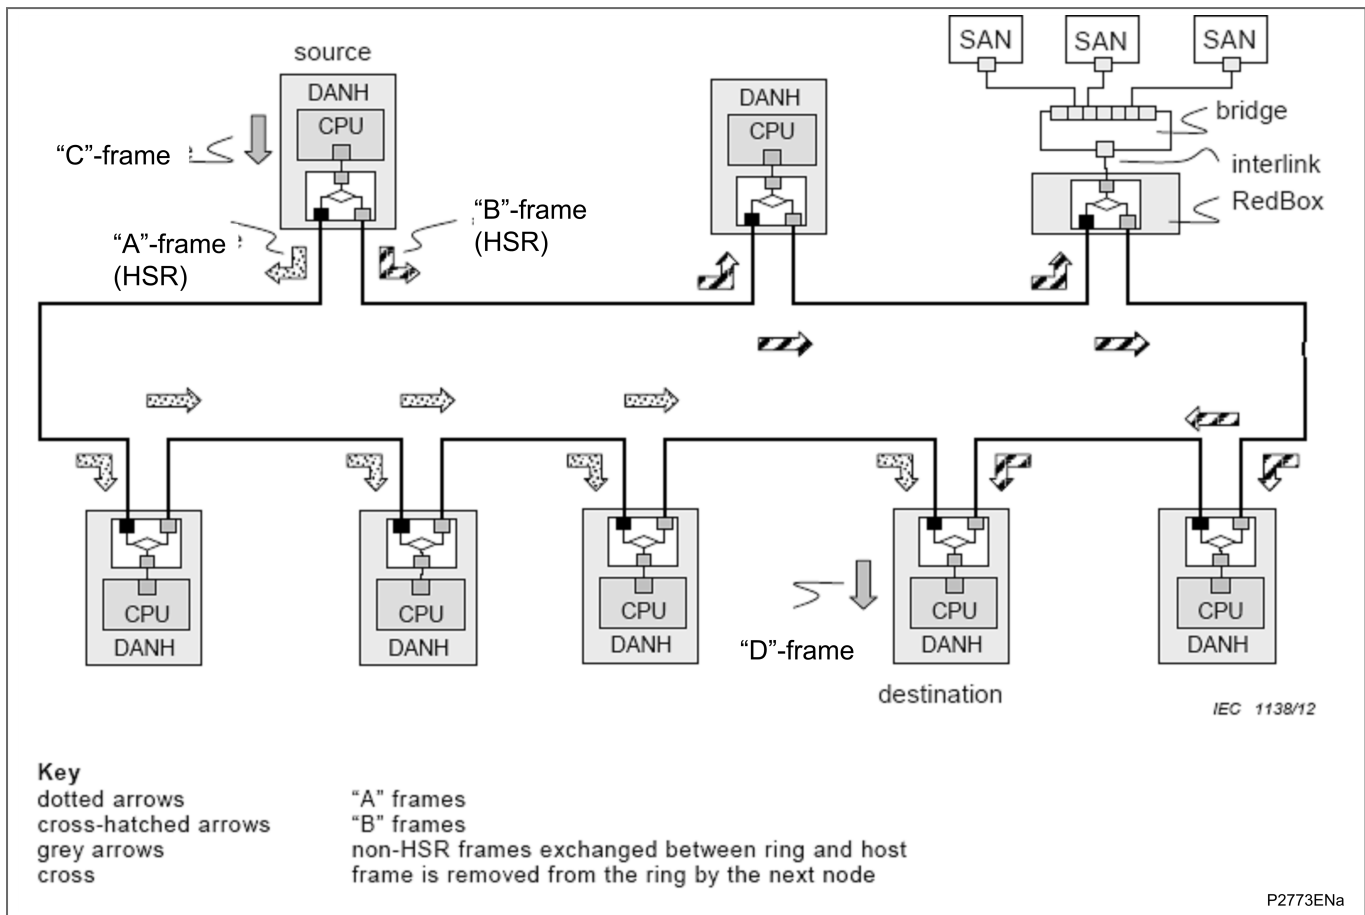

Figure 5 - HSR example of ring configuration for unicast traffic
- Figure 5 - HSR example of ring configuration for unicast traffic